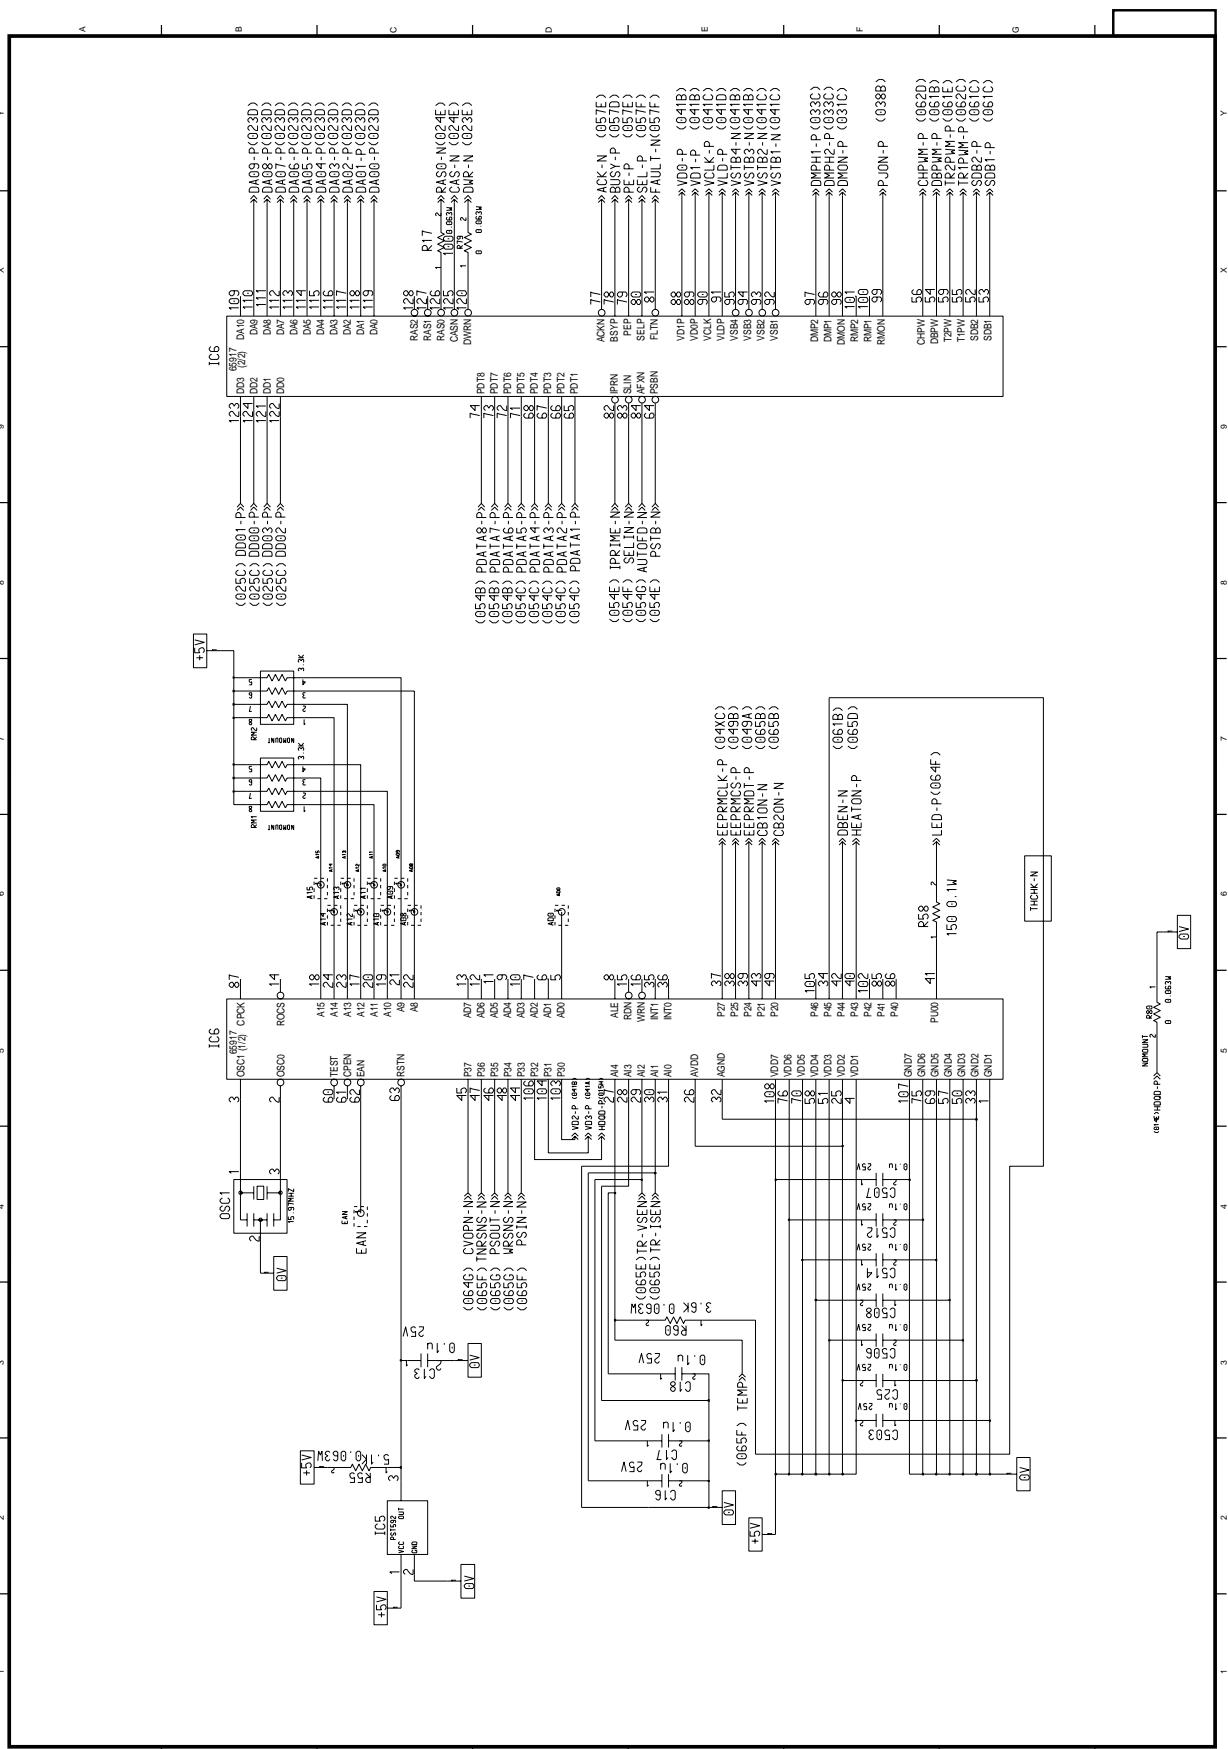

Figure 5-8 Main Control PCB (H63-1/6) Circuit Diagram Rev.4
- Figure 5-8 ~ 5-13 Main Control PCB (H63-) Circuit Diagram (Rev.4)